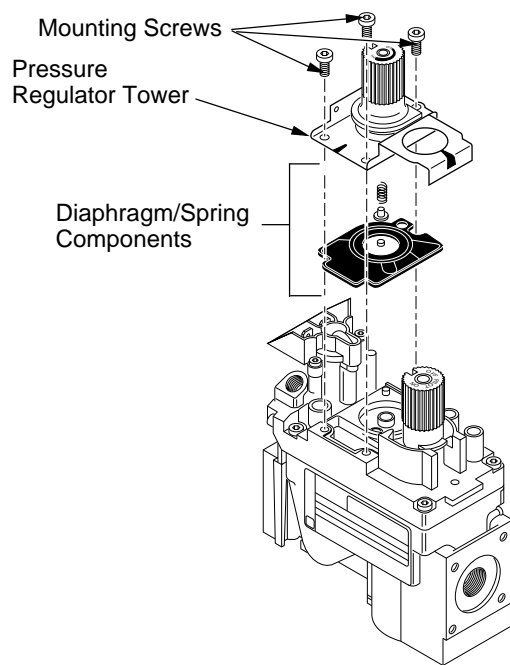

Figure 8 - Removing Mounting Screws, Pressure Regulator Tower, and Diaphragm/Spring Components
1. Using a Torx T20 or slotted screwdriver, remove and discard the three mounting screws, pressure regulator tower, and diaphragm/spring components (see Figure 8).